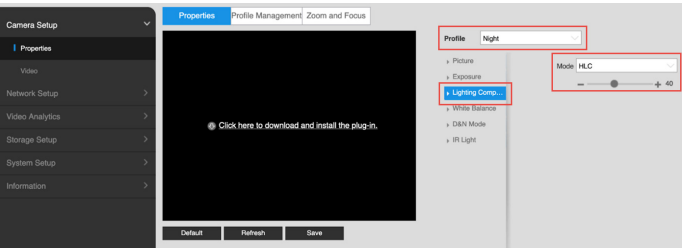

Fig. 3.6
11. From the menu options to the right of the video preview window, select: “Lighting Compensation.” See Fig. 3.6 (if the video preview image from the camera blocks the ‘Lighting Composition’ option, make your browser window smaller, and you should be able to access it if you use the scroll bars).